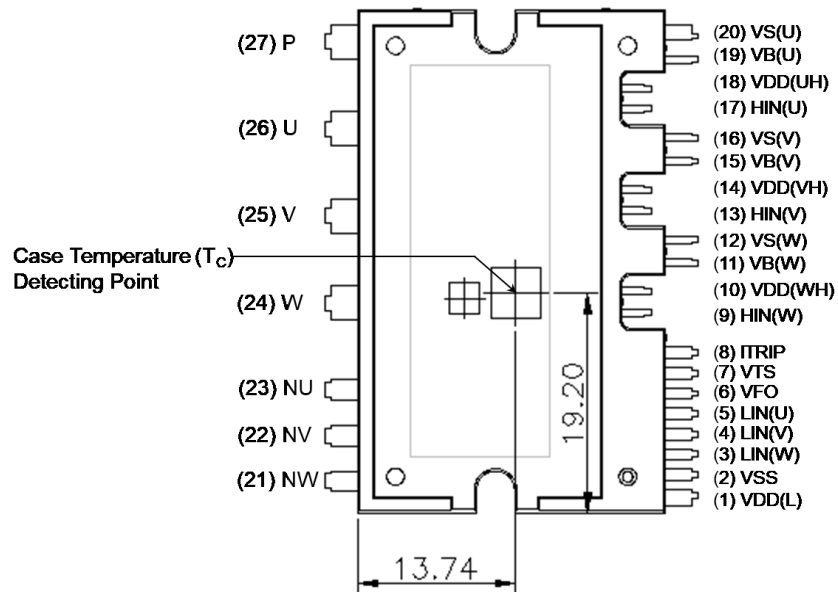

Figure 8. Case Temperature (Tc) Detecting Point
| $T_c$          | Case Operation Temperature                                                 | See Figure 8                                                                                                                          | -40~125 | $^{\circ}\text{C}$ |
4. For the measurement point of case temperature ( $T_c$ ), please refer to Figure 8.